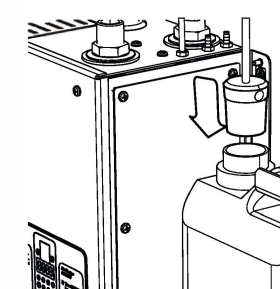

Fig 15b
4. Replace cap with the push-fit cap pre-connected to the soap tube (See figure 15b).